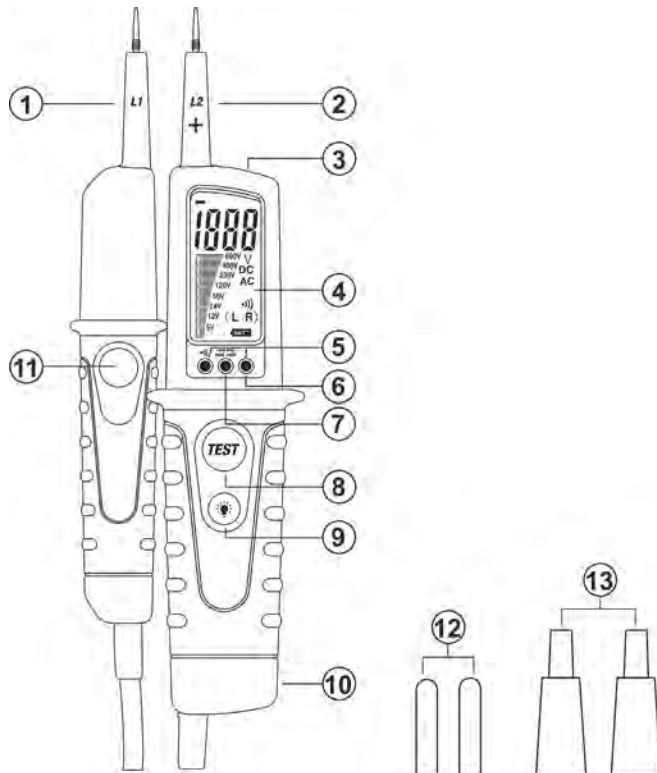

Fig. 1: Instrument description
5. **Press the two switches (see Fig. 1 part 8 and 11) simultaneously. The applied voltage is displayed on the LCD. The low impedance LED indicates the low input impedance voltage measurement (load connection)**